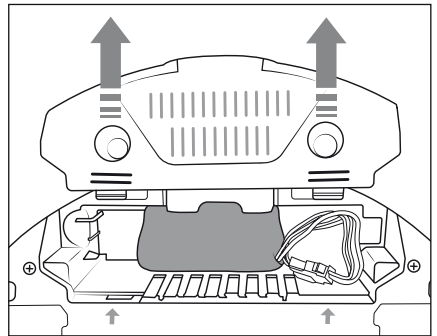

Fig. 13
- 1) Pull the battery compartment cover **15** off the appliance (see Fig. 13).